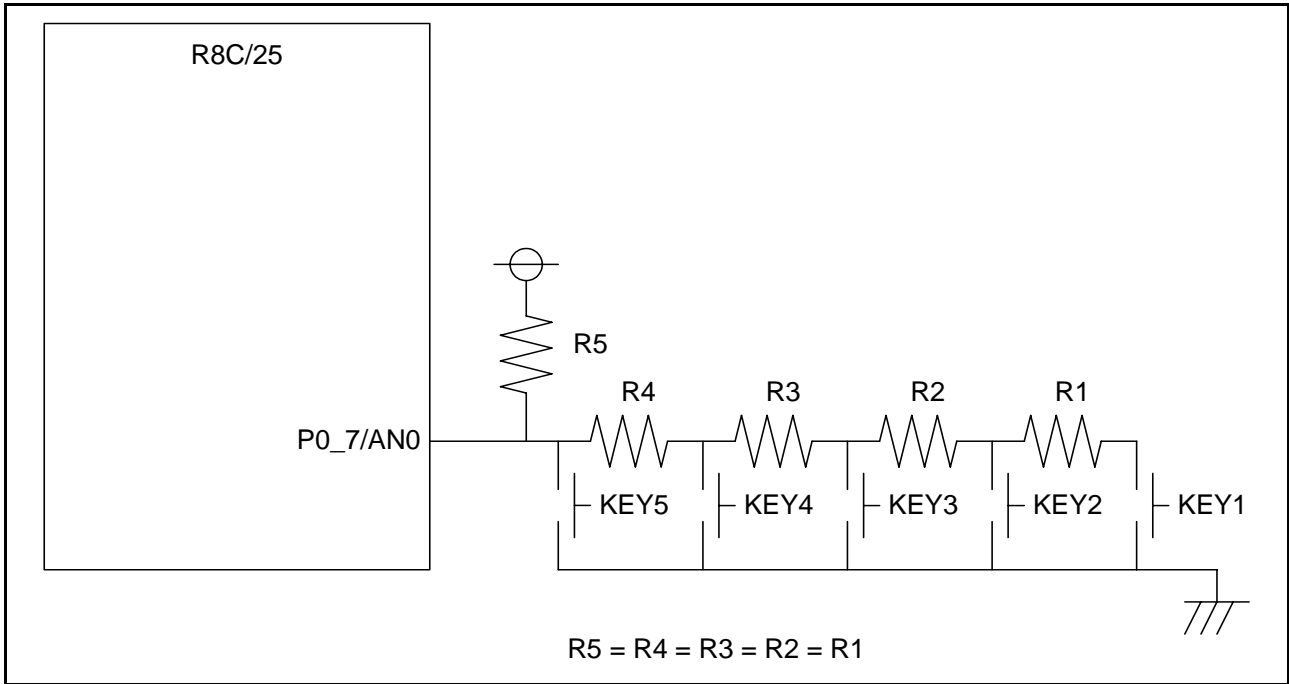

Figure 3.1 Key Input
- (1) The P0_7/AN0 pin is used for analog input. As Figure 3.1 shows, multiple keys and a resistor are connected and configured so that the voltage applied to the P0_7/AN0 pin varies depending on which key is pressed.
- (2) One-shot mode is selected as A/D operating mode, f2 is selected as ϕ AD frequency, and 10-bit resolution is selected.
- (3) A/D conversion is performed every 5 ms. Timer RA is used to measure 5 ms.
- (4) When the A/D conversion value is fixed, the variable `ad_fix` is used to identify which key is pressed. The key code is fixed when the same key code is identified twice. The key code fixed this time and the one fixed last time (`last_ad_key`) are compared, and if they match, the matched key code is set into `ad_key_code`.